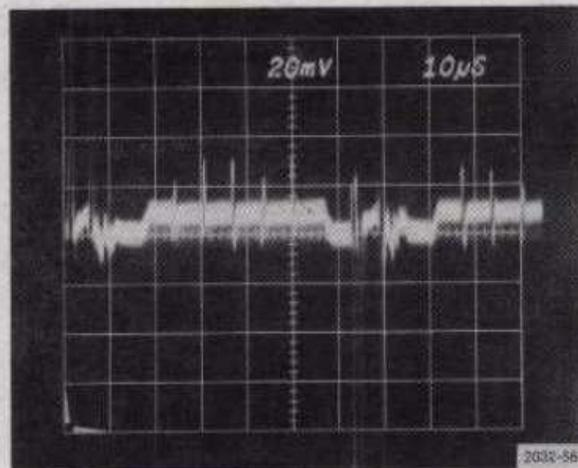
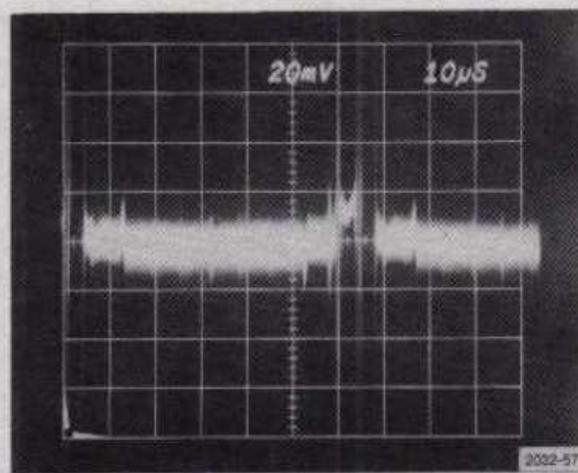

Fig. 5-15. 1420 — Differential Phase check.
Fig. 5-16. 1421, 1422 — Differential Phase check.
- c. CHECK—that tilt caused by changing luminance levels does not exceed 2% of the amplitude noted in step 13c (2% is equal to 1° of differential phase). See Fig. 5-15 or Fig. 5-16.